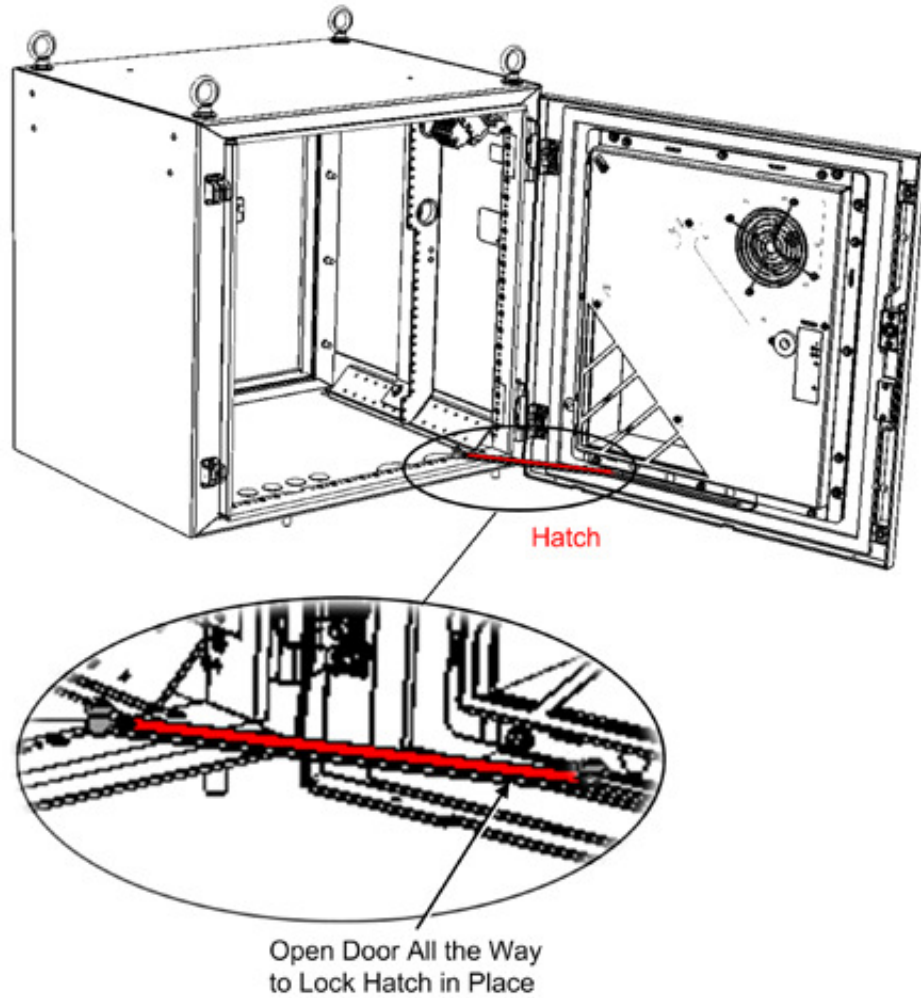

Figure 6-14. Opening Cabinet Door and Locking in Place
**⚠ ATTENTION!** Make sure that the door hatch locks into the door rail in order to avoid closing of door while installing the chassis. See Figure 6-14.